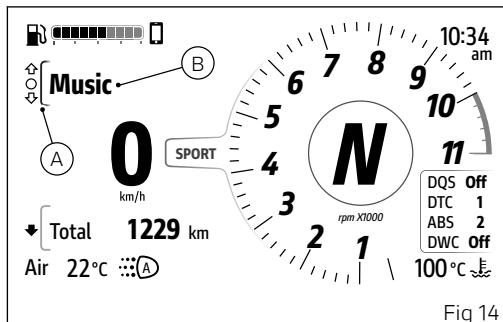

Fig 14
- Select the Interactive Menu (A, Fig 14) by pressing and holding button (1) pressed for a long time.
- Use buttons (1) and (2) to select item "Music" (B, Fig 14) and press the ENTER button (3).